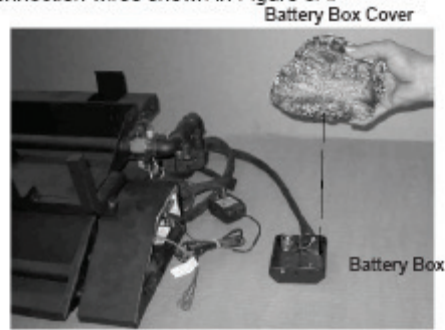

Figure 3 Battery Box and Cover (for IPI units only)
- IPI models include a battery box which holds 2 "D" size batteries. The battery box should be placed in the right front corner of your fireplace and covered with the log cover as shown in Figure 3.